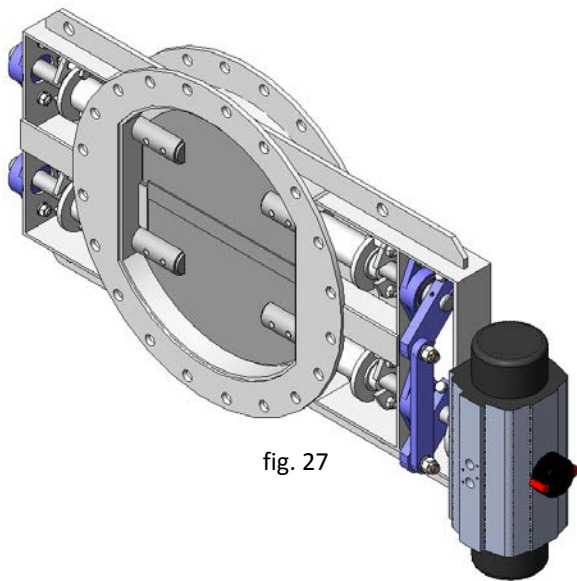

fig. 27
- Single acting pneumatic cylinder (fig 27) *